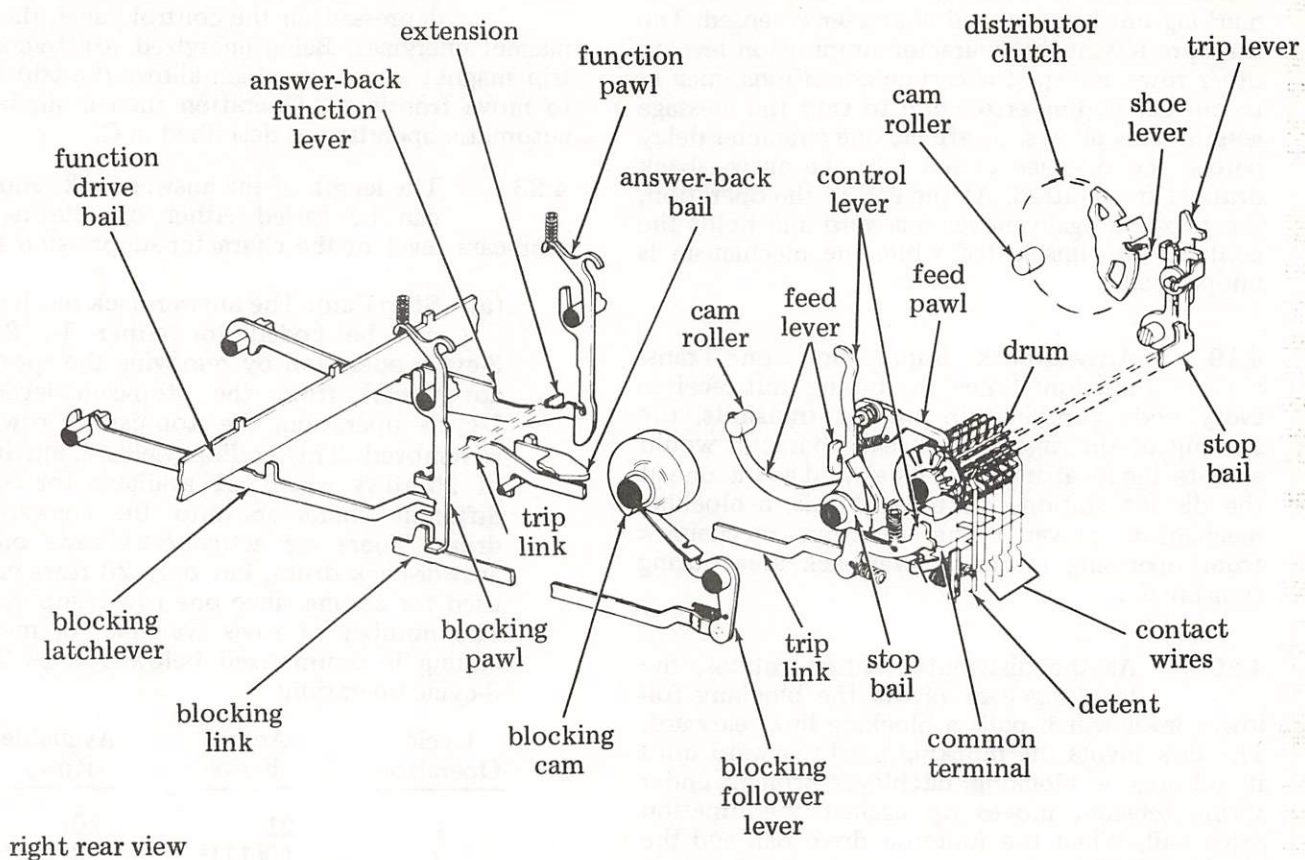

Figure 13 - Answer-Back Mechanism Remote Actuation
B. Remote Actuation (Figure 13)